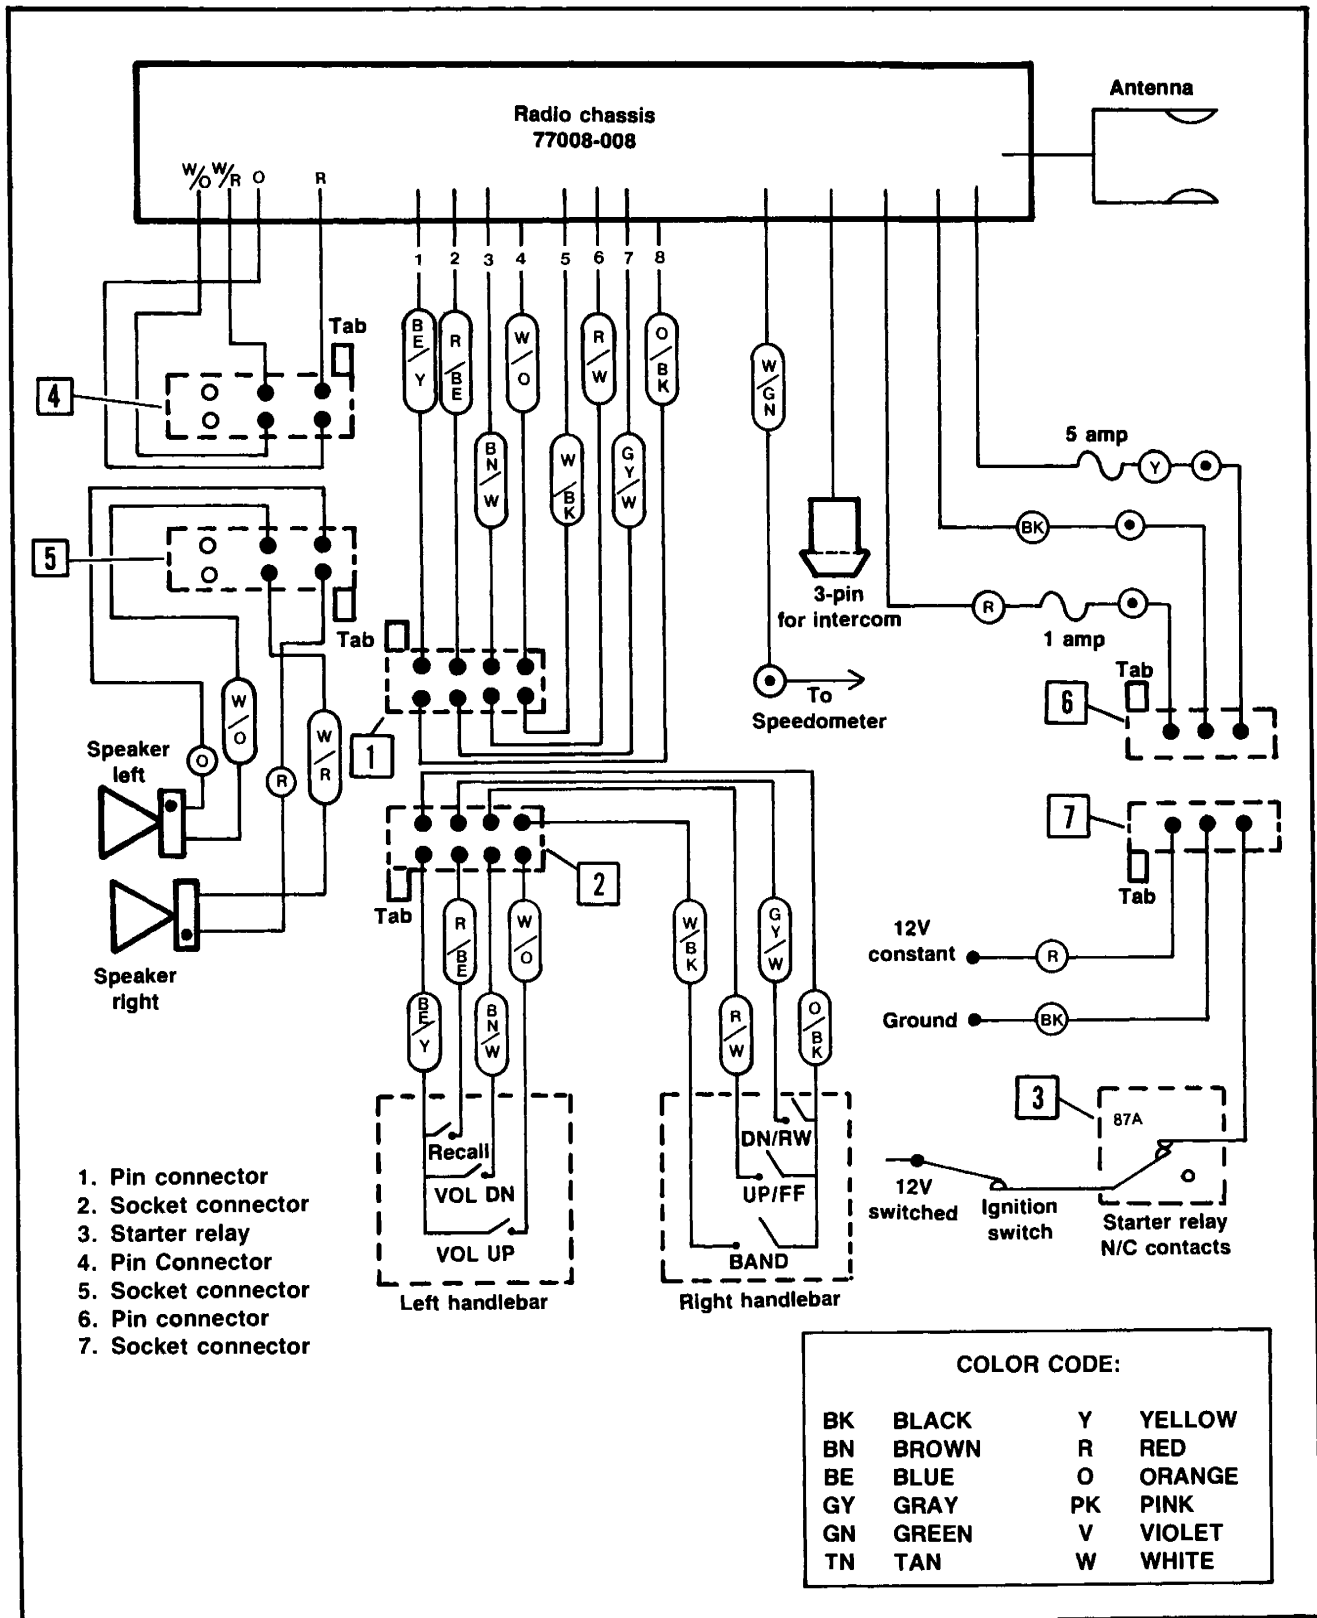
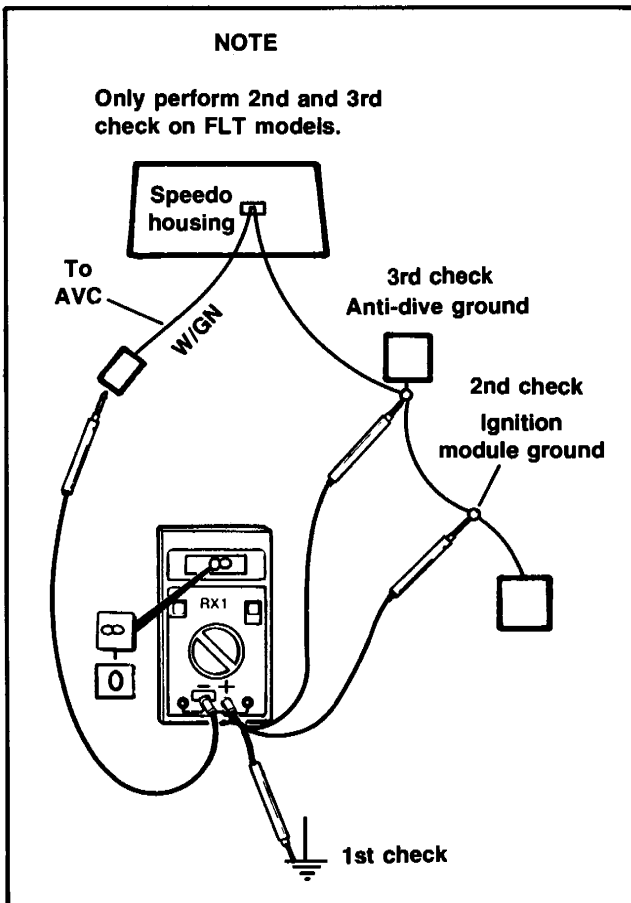

Figure 2-129. Wiring Diagram
Figure 2-132. Reed Switch Test Connections
a ground or short may exist. Refer to Figure 2-129 to determine the switch and lead connections.
1. Refer to Figure 2-129. Disconnect connector halves (1) and (2).
Refer to Figure 2-129. Disconnect connector halves (1) and (2). Connect voltmeter black lead to vehicle ground. Touch each pin of pin connector (1) with red probe and watch for an indication of voltage on meter. There should be no voltage present at any of the pins. If a voltage is present, this is an indicator of current flow into the radio control circuit from source other than radio chassis.
1. See Figure 2-132. Connect one lead of ohmmeter to W/GN wire that connects speedometer reed switch to radio. See Figure 2-129 if necessary.